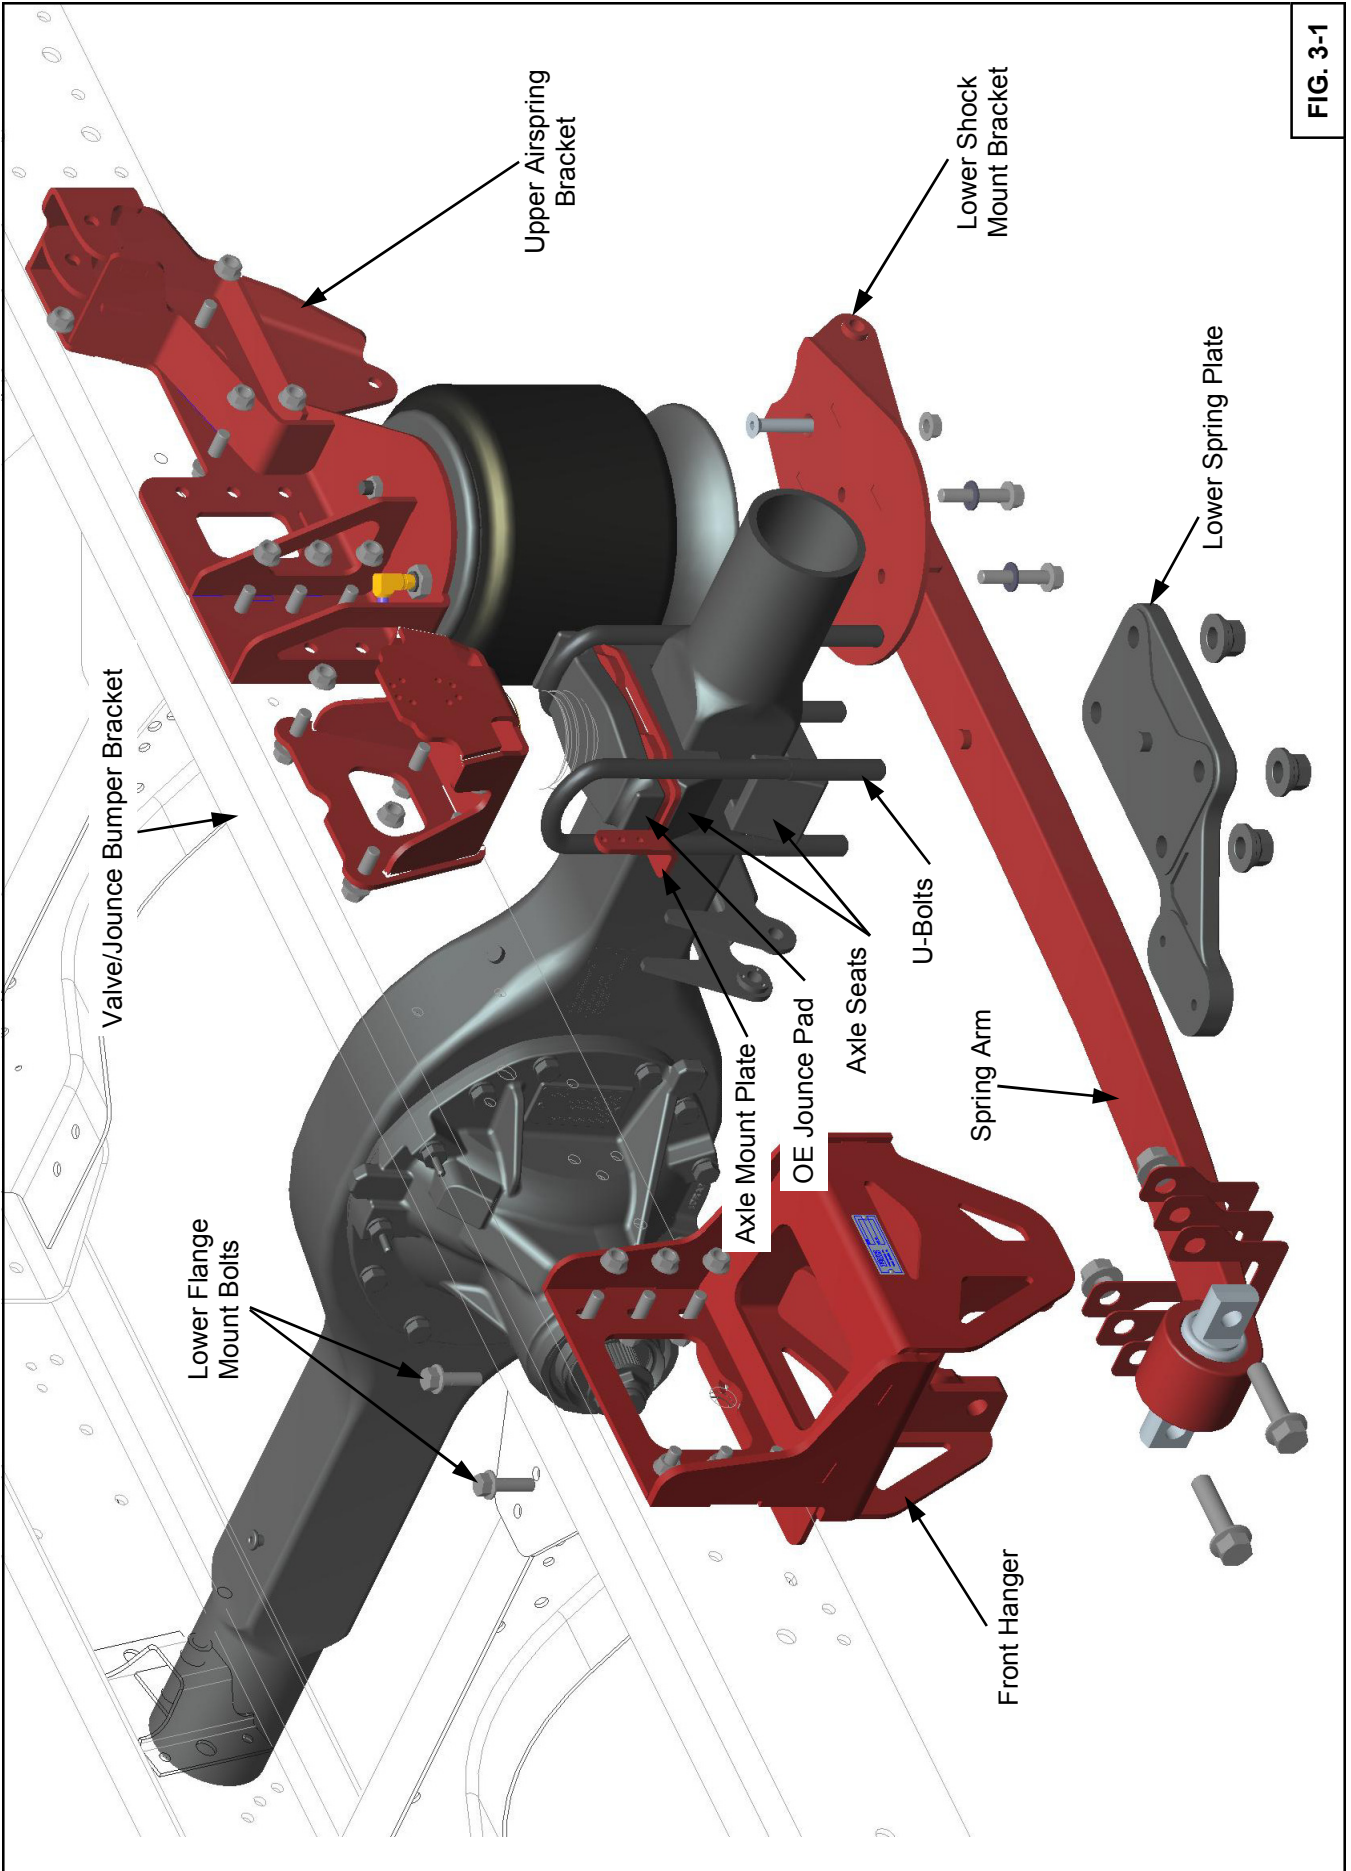

FIG. 3-1
2. Loosely fasten the FRONT HANGER to the frame using (8) 1/2 x 1 3/4 UNC FLANGE BOLTS and (8) 1/2 UNC TOP LOCK FLANGE NUTS, supplied with kit. **Two of these fasteners are to be used in the bottom flange of the frame rail. (Shown in Fig. 3-1, and 3-2)** Drilling is required if the holes are not present in the frame flange. Orient all fasteners with nut on outside of frame. Torque Later. See Fig. 3-1, 3-2 for details.
3. Place the VALVE/JOUNCE BUMPER BRACKET on the outside of the frame, and attach loosely with (4) 1/2 X 1 3/4 UNC FLANGE BOLTS. Install the OE JOUNCE BUMPER back on the new VALVE/JOUNCE BUMPER BRACKET See Fig. 3-1, 3-3 for details. Torque Later.
4. Place the UPPER AIR SPRING BRACKET into position and fasten to the frame using (7) 1/2 X 1 3/4 UNC FLANGE BOLTS and (7) 1/2 UNC TOP LOCK FLANGE NUTS. Five fasteners must be located over the AIRSPRING, and two in the SHOCK ABSORBER mount location as shown in Fig. 3-4. Drilling may be required for rearmost fasteners in shock location. **Orient All Frame Mount Bolts so that they point outward from the center of the vehicle.** See Fig. 3-1, 3-6, & 3-7 for details. Torque Later.
5. Loosely fasten the SPRING ARM to the FRONT HANGER using (2) 3/4 X 3 UNC FLANGE BOLTS, AND (2) 3/4 UNC FLANGE NUTS. Mount the SPRING ARM to the **Front Side** of the FRONT HANGER as shown in Fig. 3-1 and Fig. 3-5. Shims are supplied with suspension to adjust axle alignment. 3 shims per side should be installed for initial alignment. Torque Later.
6. Place the upper AXLE SEAT on top of the axle in the same orientation it was removed. See Fig. 3-1, 3-3 for orientation.
8. Place OE JOUNCE PAD on top of the AXLE MOUNT PLATE, and drop (2) M20 X 315 U-BOLTS down through the front AXLE MOUNT PLATE, LOWER SPRING PLATE. Loosely attach using (4) M20 Flange Nuts. The U-bolt nuts will be torqued later. **U-BOLTS must be tightened gradually in a criss-cross pattern.** See Fig. 3-1. and Fig. 7-2. **Note:** If installing with 800M1051 rear Stabilizer Bar Kit, install Sway Bar Mount Brackets now. Refer to Rear Stabilizer Bar Kit Installation Instructions.
9. Attach the lower AIRSPRING piston through the LOWER SHOCK MOUNT BRACKET and the SPRING ARM using (2) 1/2 x 2 3/4 FLANGE BOLTS and (2) 1/2 WASHERS. Attach LOWER SHOCK MOUNT BRACKET to the SPRINGARM using (1) 1/2 UNC BOLT and NUT. See Fig. 3-1 for details. Torque Later